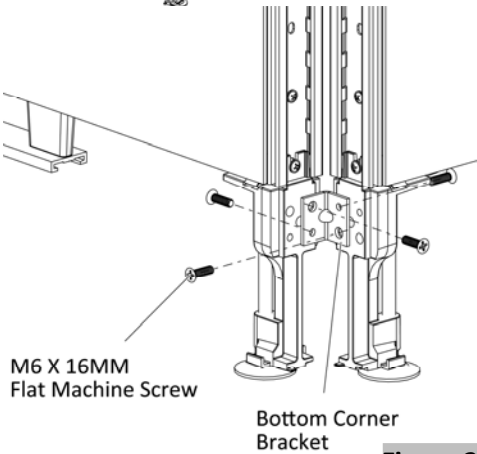

Figure 2
- 5. Securely fasten the bottom corner bracket to panel legs with four M6 X 16MM Flat Machine Screws, (Figure 2).